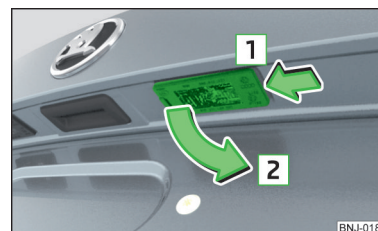

Fig. 193
- Push in the lamp in the direction of the arrow **1** » Fig. 193.